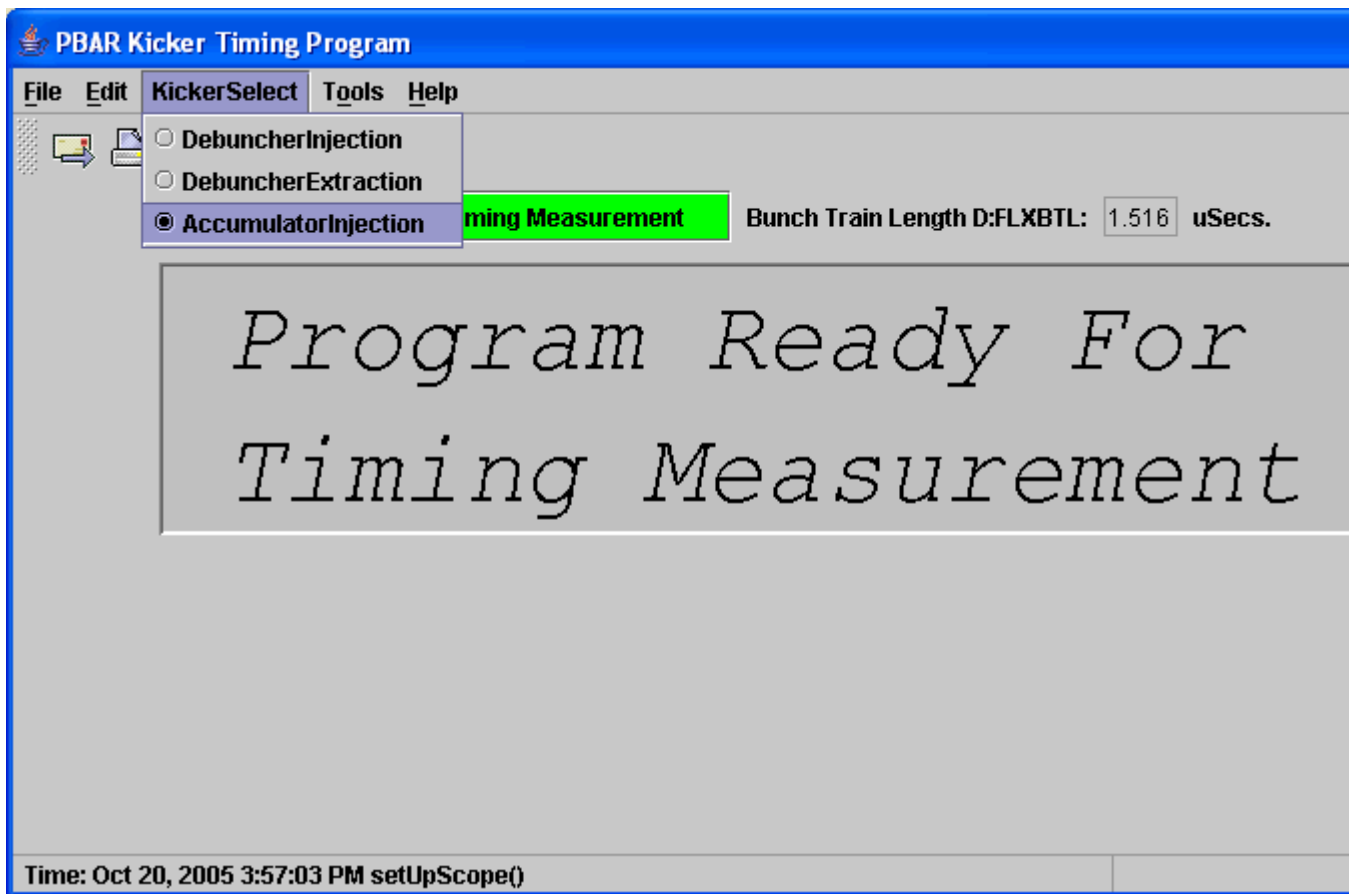

Figure 31: The Java Pbar Kicker Timing Program. Click on "KickerSelect" and then select "Accumulator Injection"
11. From the Java Kicker Timer Program application, go "KickerSelect" - > "AccumulatorInjection" as shown in Figure 31.